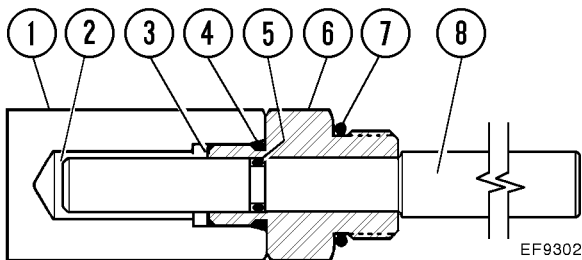

FIGURE 5-2. BRAKE WEAR INDICATOR
Brake disc wear should be checked every 1000 hours by using the wear indicator tool (EF9302), that is included in the tool group that is shipped with the truck. Refer to Figure 5-2.
- a. Remove cover (1, Figure 5-2) from the wear indicator.
- b. Push pin (8) inward until it stops against the brake piston.
- c. Measure the distance from indicator pin end face (2) to housing face (3).
- ☐ If indicator pin end face (2) is even with housing face (3) or below, disc pack is worn to the maximum safe wear limits. The brakes should be scheduled for rebuild.
- ☐ If indicator pin end face (2) extends out beyond housing face (3), brake disc wear is still within allowable limits.
7. Pull pin (8) outward until it stops against tool housing (6). Install cover (1).
NOTE: If any leakage is observed around the brake disc wear indicator tool, replace O-rings (4, 5, and 7, Figure 5-2).